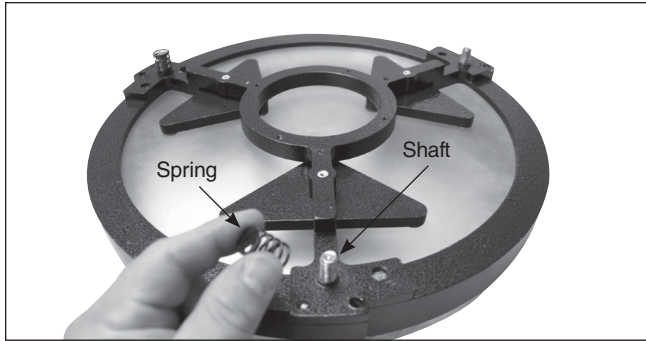
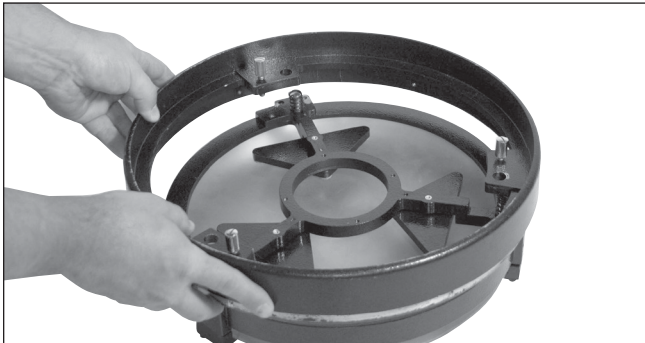

Figure 13. Place the three springs on the exposed threaded shafts of the mirror cell.
Figure 14. Lower the rear end ring onto the mirror cell so that the threaded shafts pass through the end ring, and the end ring rests on the springs.
2. Next, assemble the rear end ring to the mirror cell. Find a clean, flat surface, and turn the mirror cell over so that the mirror is facing downwards. Place the three springs onto the three exposed threaded shafts (**Figure 13**). Lower the end ring onto the mirror cell so the threaded shafts pass through it, and the end ring rests on the springs (**Figure 14**). Add a nylon washer to each collimation knob and thread the collimation knobs through the end ring and onto the threaded shafts (**Figure 15**). Make sure the knobs have at least three full turns of engagement on the shafts. The mirror cell is now ready to be installed onto the lower tube section.